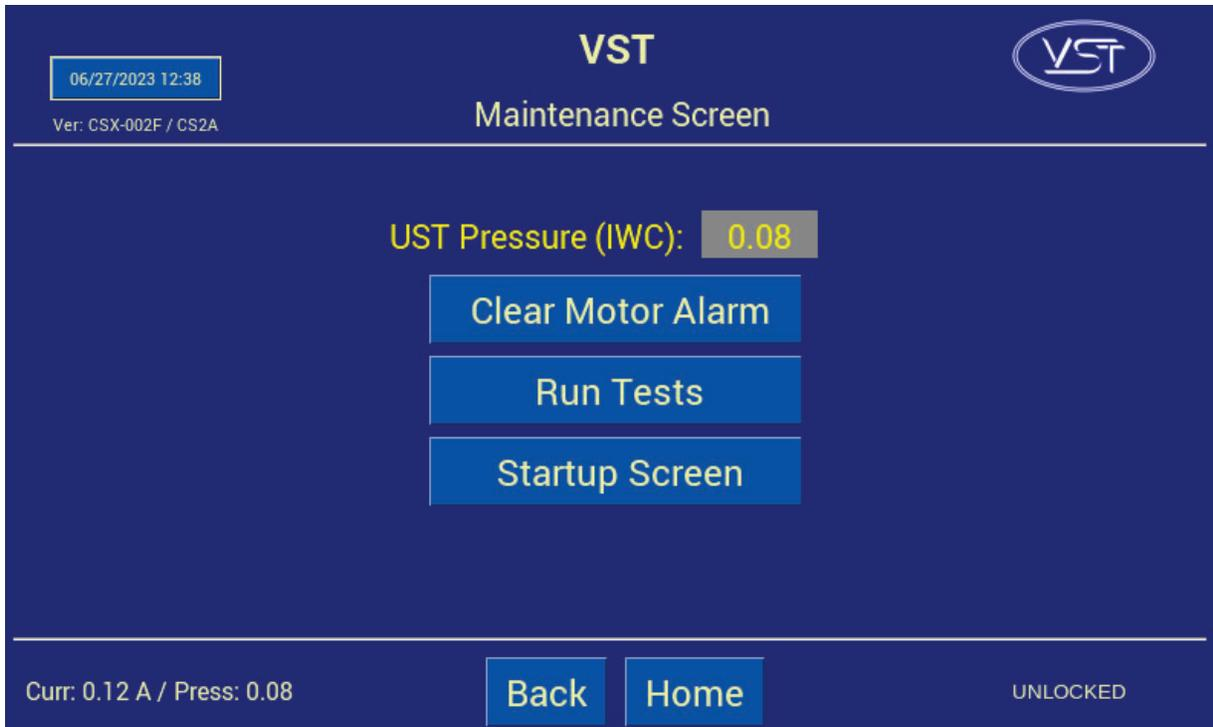
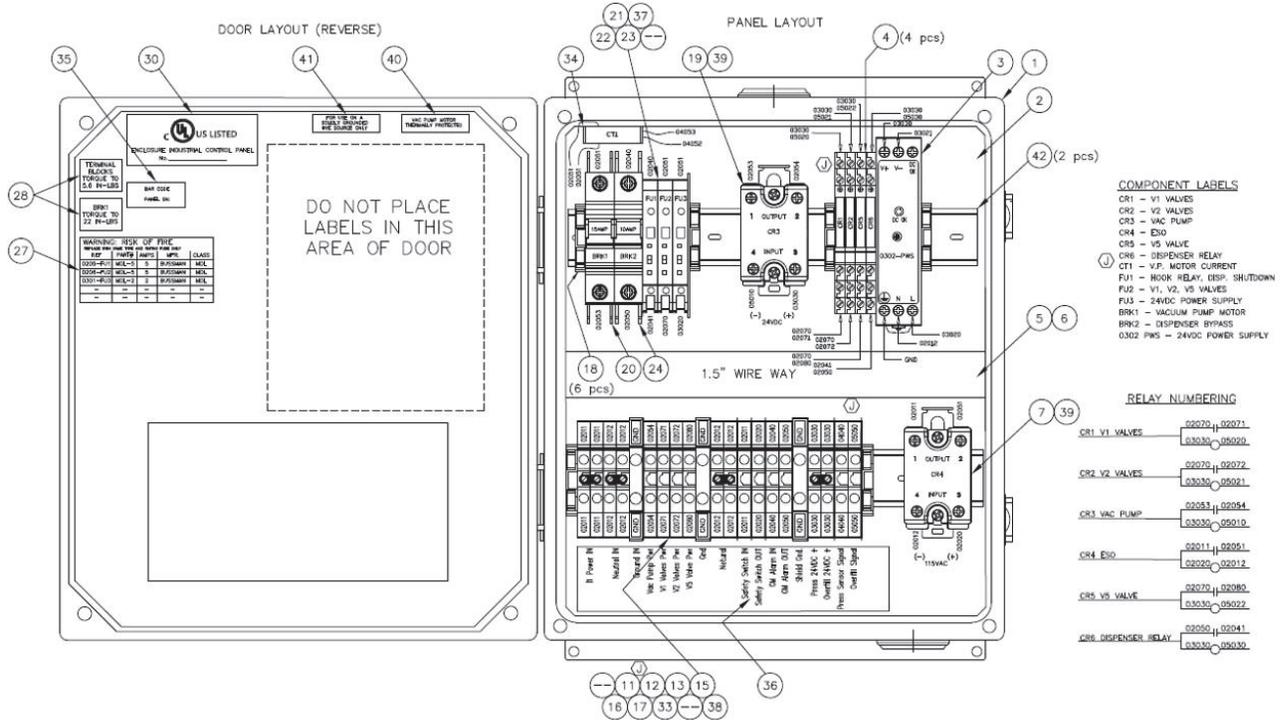

Figure 8-17: Maintenance Screen
Figure 8-21: VST Control Panel Electrical Components
1.	<p>Check to see if the Vacuum Pump breaker (BRK1) in the Control Panel has tripped. See Figure 8-21.</p> <ul style="list-style-type: none"><li>a) Enter the Maintenance screen using the code 878 to disable the GREEN MACHINE.</li><li>b) Open the Control Panel front door</li><li>c) Check the breaker BRK1 to see if it tripped:<ul style="list-style-type: none"><li>● If the breaker lever is up and the window is RED, the breaker has not tripped.</li><li>● If the breaker lever is down and the window is GREEN, the breaker has tripped.</li></ul></li><li>d) If the breaker has not tripped, go to Step 2.</li><li>e) If the Vacuum Pump breaker has tripped, move the lever up to reset the breaker.</li><li>f) Push the Clear Motor Alarm button so the alarm resets. See Figure 8-17.</li><li>g) Push the Home button to go back to the Main Screen and the alarm will be cleared.</li><li>h) The GREEN MACHINE is now in a Normal Operating Mode and will operate if the UST pressure is above 0.2 IWC.</li><li>i) NOTE: IF THE VACUUM PUMP BREAKER CONTINUES TO TRIP, GO TO STEP 2.</li></ul>
- i) Push the Clear Motor Alarm button so the alarm resets. **See Figure 8-17.**
**See Figures 8-17 and 8-18.** Then press the Leak Test button.
- b) If a valve is not energized, the screwdriver will not be drawn to the retainer clip. **See Figure 8-21** for fuse location.